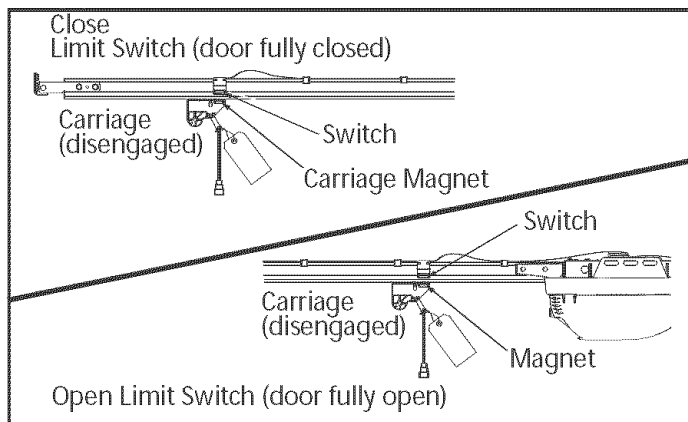

Figure A-2 Setting Limit Switches
- B** Adjust the Close Limit Switch: (Figure A-2).
- C** Adjust Open Limit Switch: (Figure A-2).